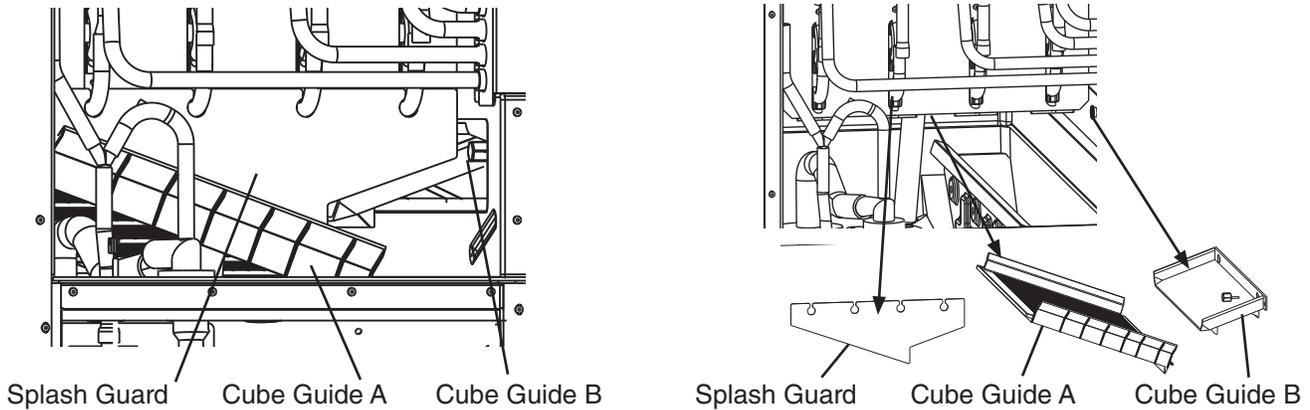

Fig. 20
2c)(1) For **KM-930MAK2** and **KM-1130MAK2** - Remove the splash guard and cube guide B. See Fig. 20.